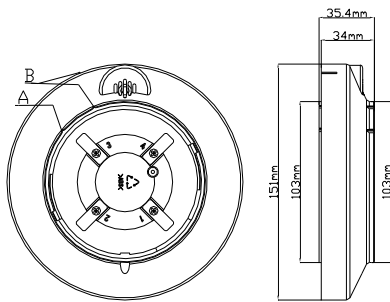

Fig. 1 Terminals of Sounder Base
Terminals of the sounder base are shown in Fig. 1.
- 4 If the sounder base comes with a cover, align the orientation mark on the cover to mark A of the sounder base (Fig.1), and rotate the cover clockwise to B. If it's used as detector base, remove the cover and install the detector on it with the same method.